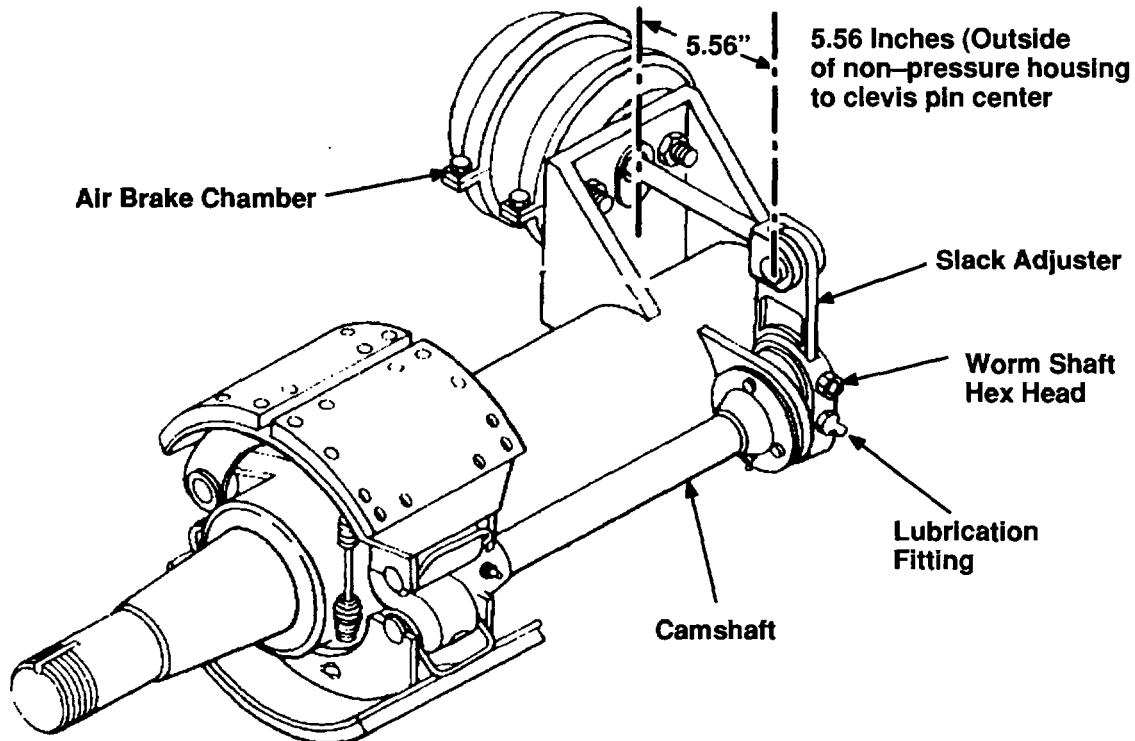

Figure 4-46. Adjustment of Yoke and Slack Adjuster
(5) Check yoke adjustment.: Dimension from outside of non-pressure housing to center of clevis pin must be 5.56-inches, fig. 4-46.
(6) Apply a 9/16-inch wrench to worm shaft hex head and push in against the slack adjuster to unlock the worm shaft.
(7) Turn the hex head of the worm shaft clockwise on slack adjuster until wheels cannot be turned.
(8) Back off the worm shaft until the wheel turns freely.